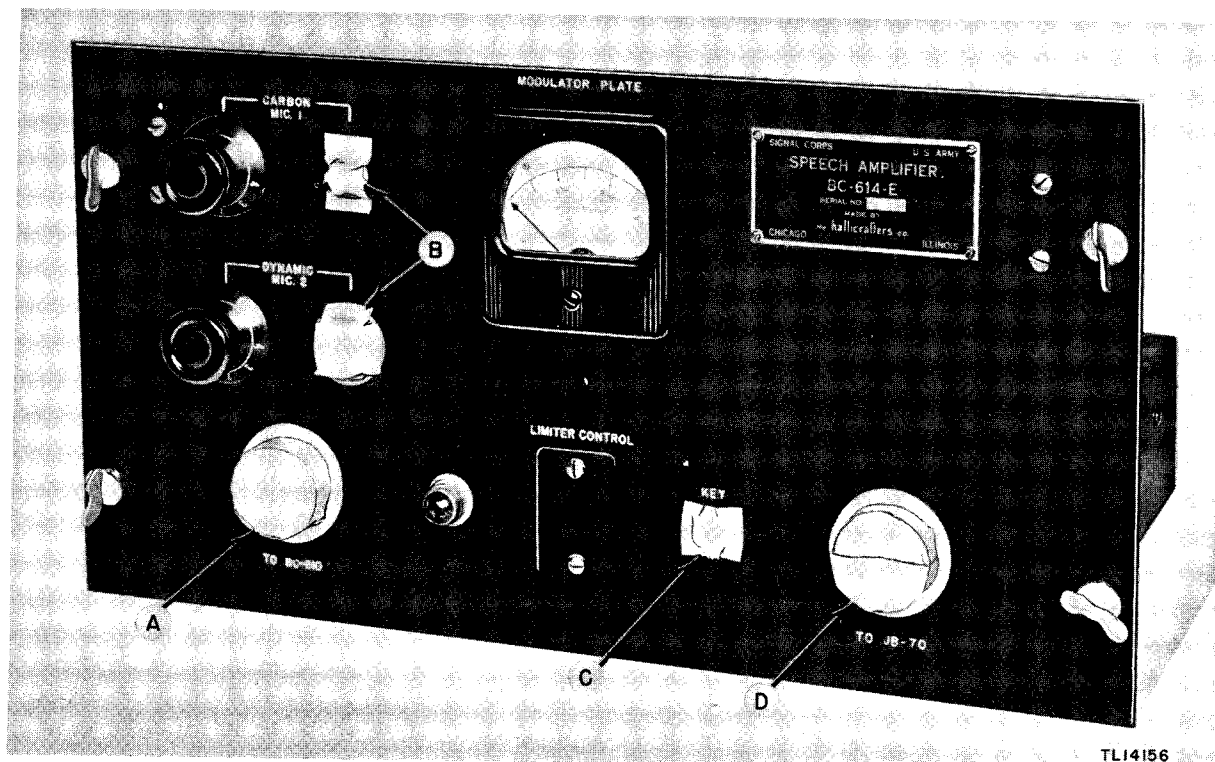

Figure 37. Speech Amplifier BC-614-E—front panel, showing method of masking.
(2) Clean all dirt, dust, rust, fungus, oil, grease, etc., from the equipment to be processed.
c. MASKING. Cover the following components with masking tape as shown in figures 37 and 38.
(1) Socket  $SO_{103}$  on front panel, item A, figure 37.
(2) Two microphone jacks on front panel, item B, figure 37.
(3) KEY jack on front panel, item C, figure 37.
(4) Socket  $SO_{102}$  on front panel, item D, figure 37.